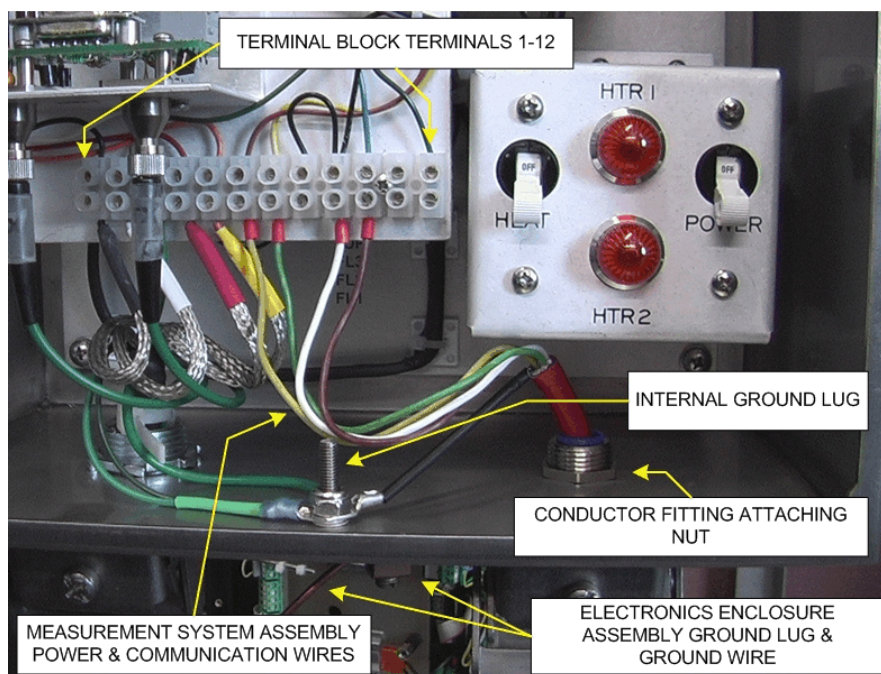
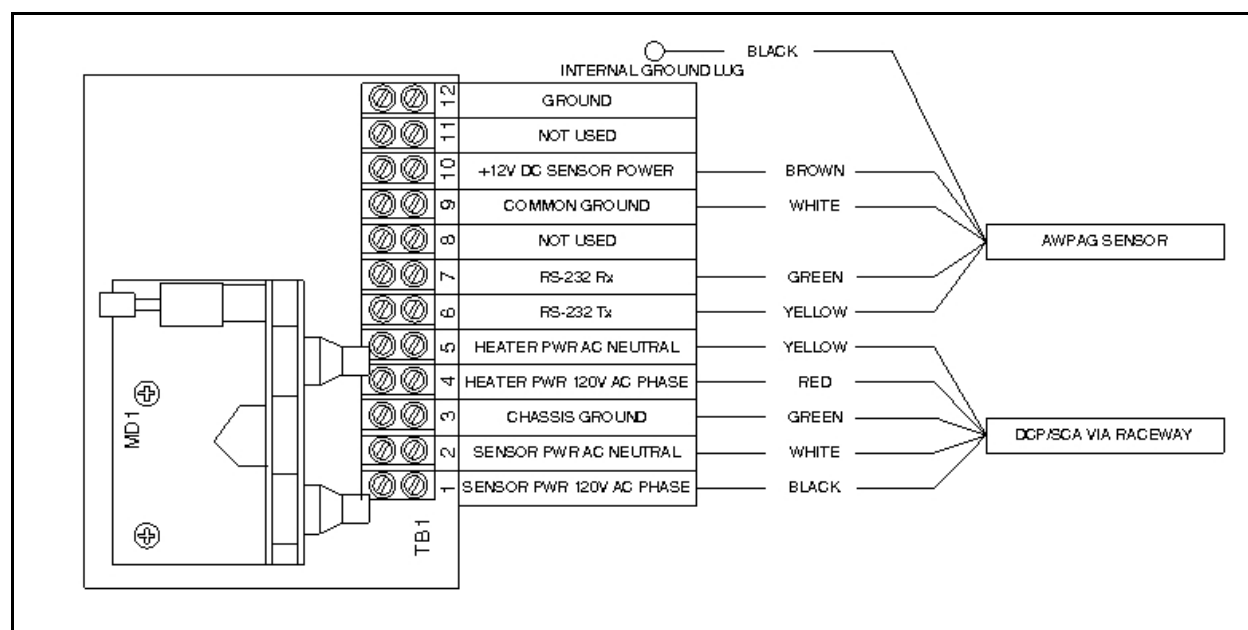
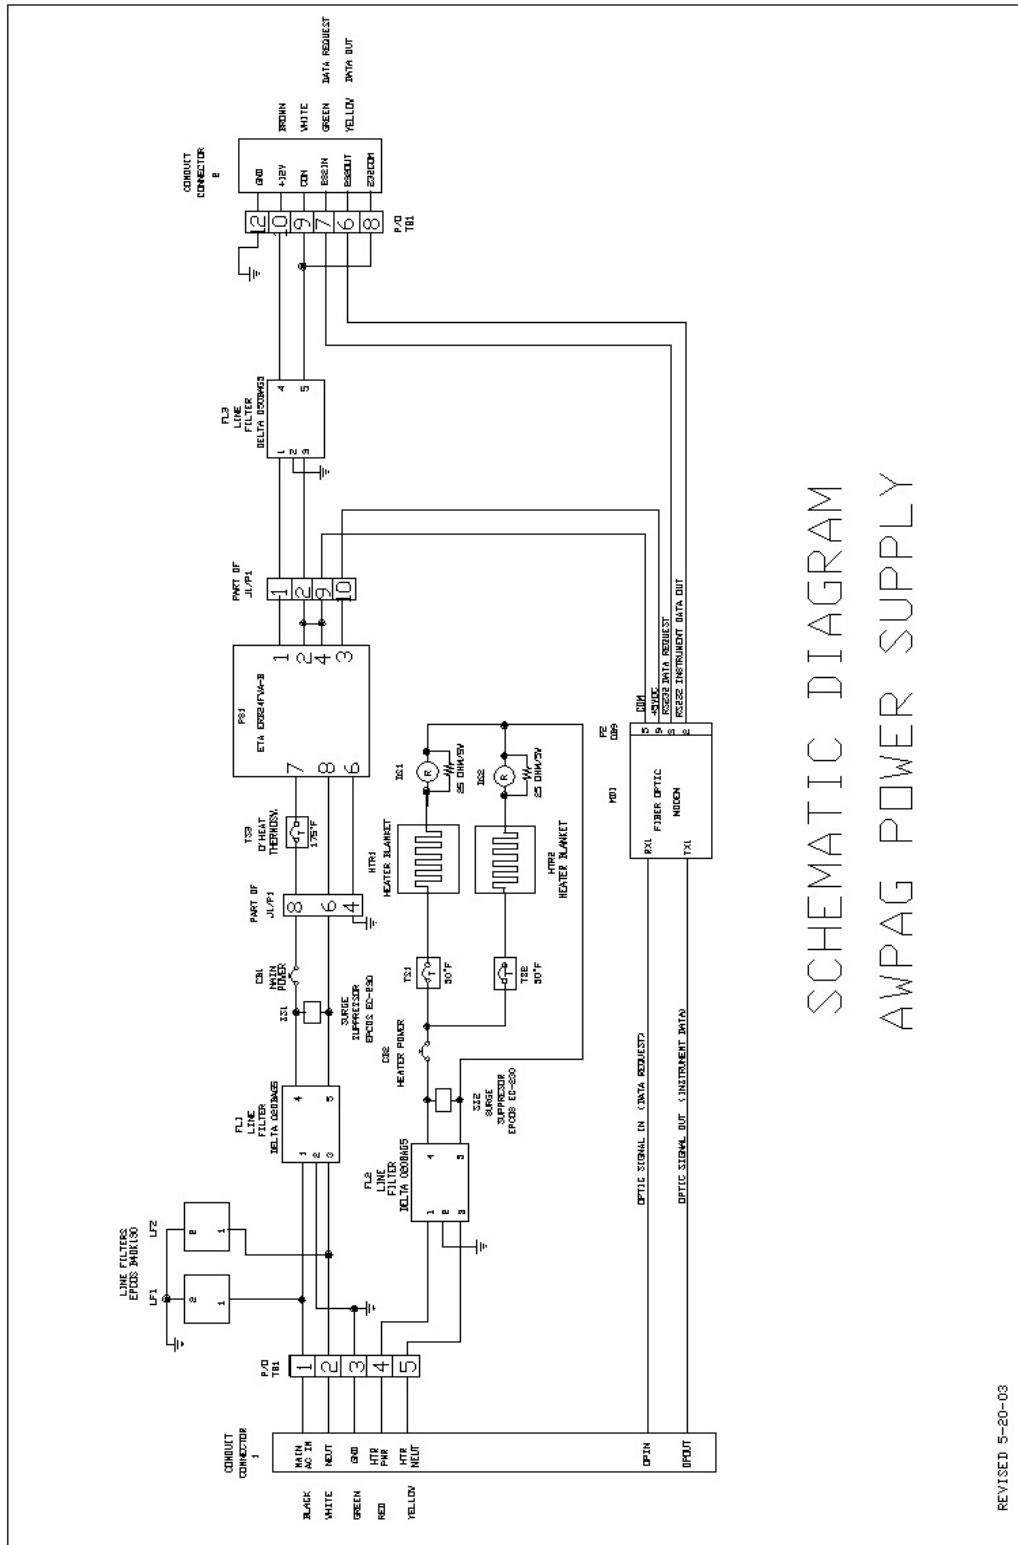

Figure 10
Figure 11
Figure 12
67. Connect the five conductors from the AWPAG to the electronics enclosure assembly terminal block following the directions on the schematic diagram on the enclosure door (see **Figure 10**, **Figure 11**, and **Figure 12**).
68. Connect the five conductors from the DCP to the electronics enclosure assembly terminal block (see **Figure 11**).